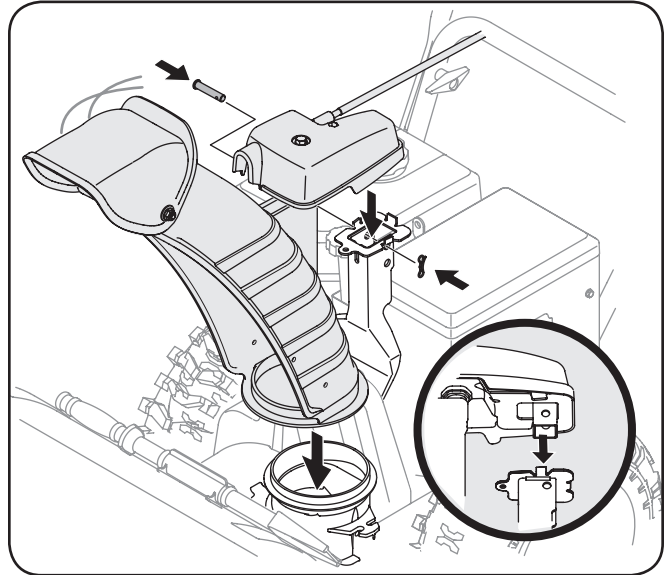

Figure 3-5
3. Place chute onto chute base and ensure chute control rod is positioned under the handle panel. Secure chute control assembly to chute support bracket with clevis pin and bow-tie cotter pin removed in step 1. See Figure 3-5.